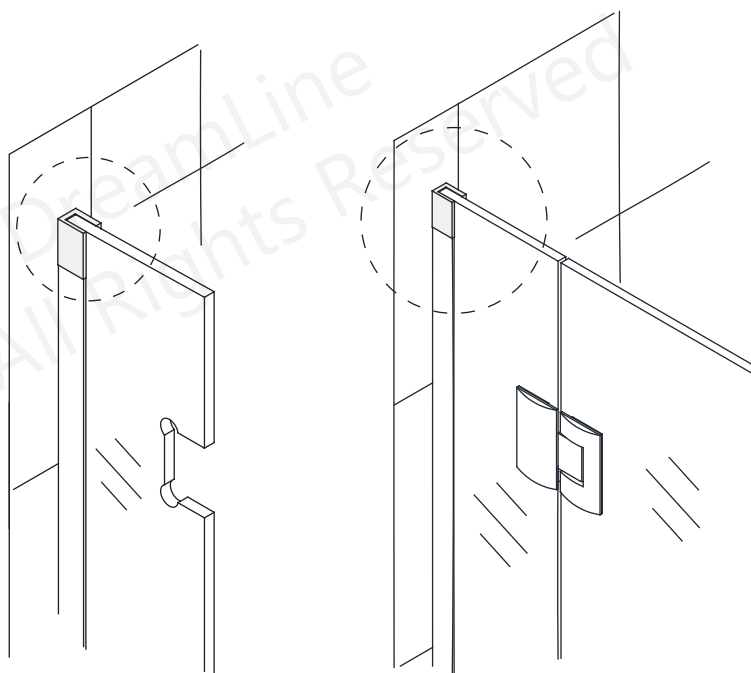

**Fig 9**
9. Tighten the rubber-tipped set screws on the **Hinge Panel Glass Bracket (#36)** to secure the hinge panel glass. **(Fig 9)**
**NOTE:** Following the installation of the Hinge Panel Glass (#32), it is required to allow the silicone to fully cure before hanging the door glass. **(Fig 9)**